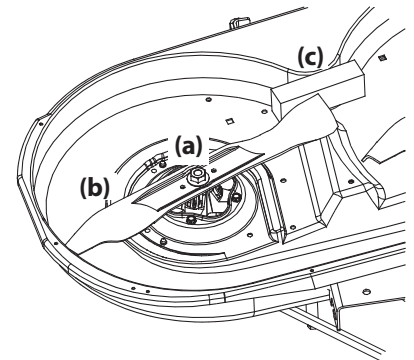

Figure 4-19
- Use a 15/16" wrench to hold the hex nut on top of the spindle assembly when loosening the hex nut (a) securing the blade (b). A block of wood (c) may be placed between the deck housing and the cutting edge of the blade (b) to help in breaking loose the hex nut (a) securing the blade. See Figure 4-19.